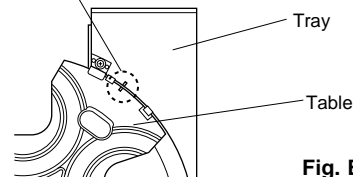

Fig. B-2
- Install the Table by aligning it to the thick line on " / " mark. (Fig.B-2)